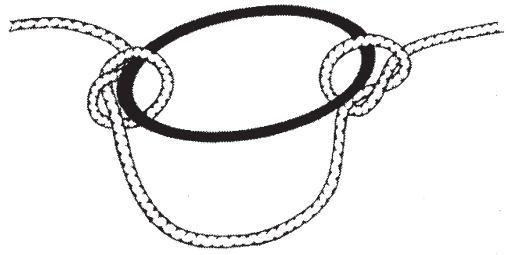

Fig. 6
- d) Approximately 12 inches from the line holder on the nose cone, tie the elastic expansion ring to the shock line leaving approximately 4 inches of slack line in the center of the ring (see Fig. 6).
Approcher l'ogive et nouer le sandow. (Fig. 6)